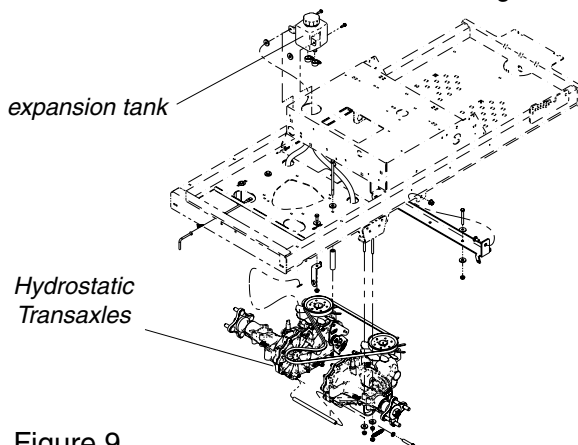

Figure 9
1. Your zero turn riding mower is equipped with dual integrated hydrostatic pumps, motors, and gear reduction transaxles. The fluid level in the expansion tank must be maintained at 1/2" to 1" above the bottom of the tank. See Figure 9.